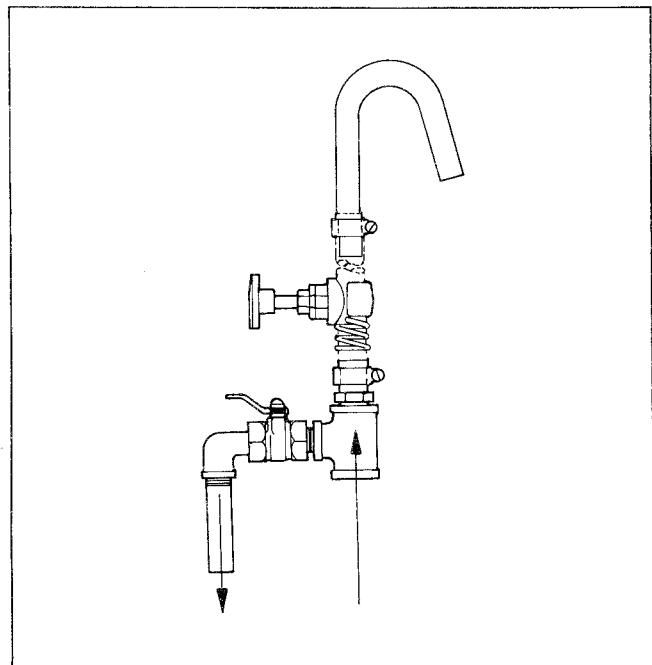

Figure 6. Type B2 System
**b. Type B2 By-Pass (Figure 6):** Consists of tee, return piping to tank with 1/2" butterfly valve, 3/4" slip-on hose fitting, 8" steel wire spring to prevent kinking, pinch valve, 2 (two) stainless hose clamps, hook-over nozzle. All parts nickel plated.